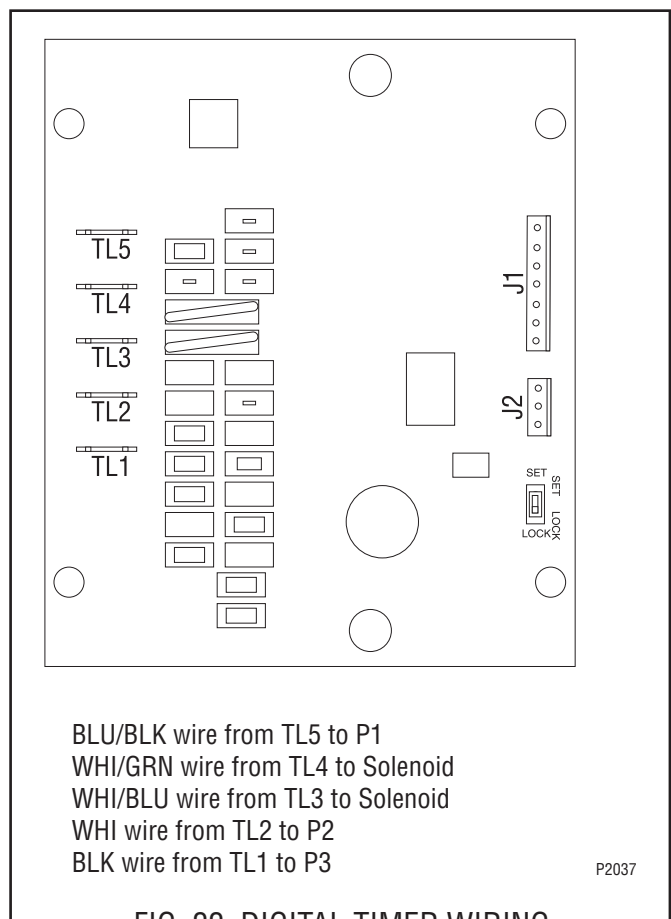

FIG. 22 DIGITAL TIMER WIRING
4. Attach all wires to the replacement timer board prior to installation to the component mounting bracket. Refer to FIG. 22 when reconnecting the wires.